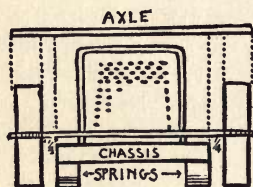

FIG. 70.
**Soldering the Wheels on the Axles.**—The wire axles should be cut long enough to go entirely through each wheel and across the frame and to allow a distance of  $\frac{1}{4}$  inch between the frame of the truck and each wheel. The length of the axles may be easily determined by placing the frame of the truck flat on the bench and placing the two wheels in position, each wheel to stand out  $\frac{1}{4}$  inch from the side of the truck. Measure the distance with a ruler from the outer edge of one wheel to the outer edge of the other and add  $\frac{1}{8}$  inch to this distance, see Fig. 70. Cut the two wire axles to this measurement and see that they are perfectly straight after cutting.